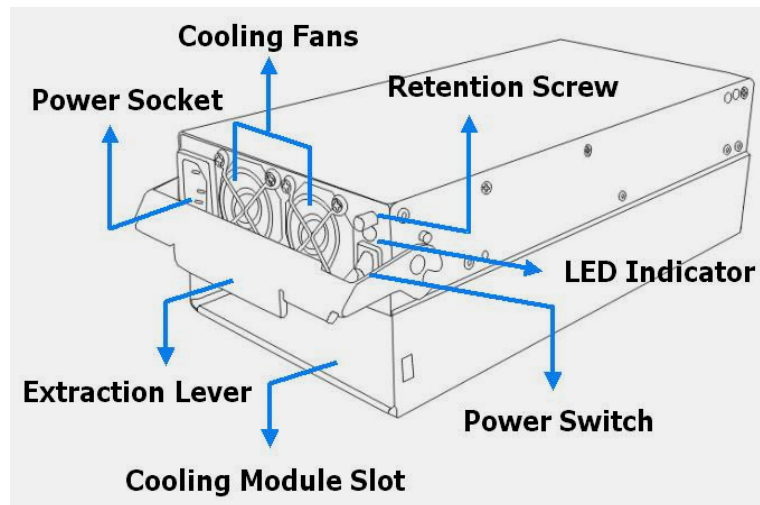

Figure 5-5: PSU and Cooling Module Components
- Step 1. **Turn off the PSU.** The power switch is located at the top of the rear panel, directly above the PSU module. (See *Figure 5-5*)